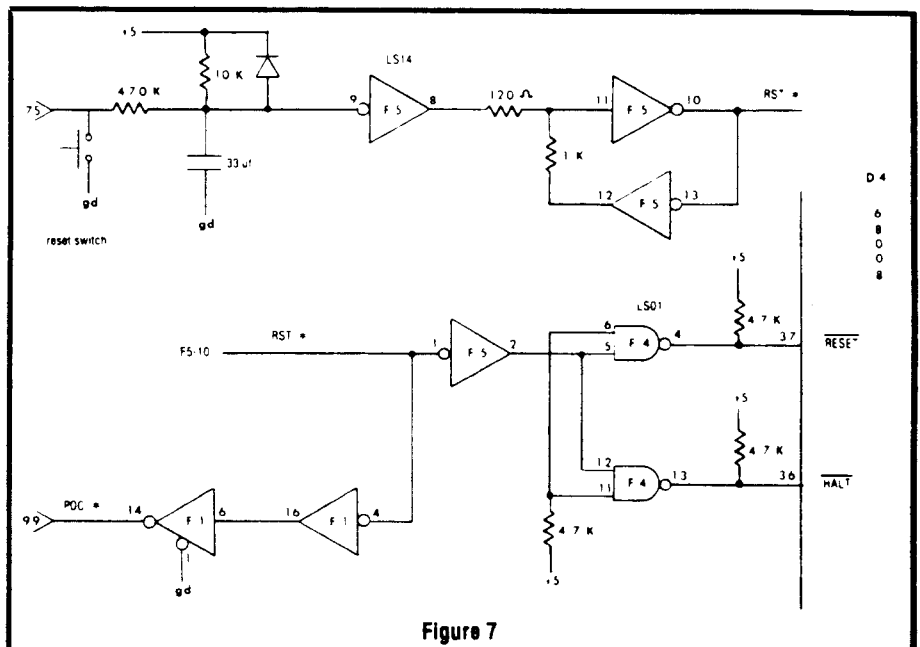

Figure 7
**Reset.** Whenever the reset switch is depressed a low is delivered to the RESET and HALT (see Figure 7) inputs of the 68008. The low is held for a period determined by the time necessary for the 33ufd capacitor to charge through the 10K resistor. The feedback circuit causes some hysteresis to be added but is overly conservative. The 68008 seems to work well enough without it.